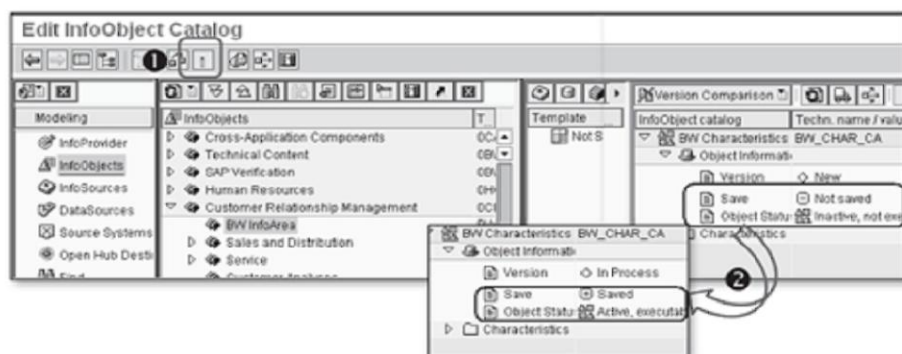

Figure 3.9 Activate InfoObject Catalog
7. Having defined the name for the InfoObject catalog, click the Create icon (❸), or press [F5] on the keyboard. The system creates the new InfoObject catalog, which is still inactive (Figure 3.9).
8. Activate the InfoObject catalog using the Activate icon (1 of Figure 3.9).
After you activate the InfoObject catalog, you'll see a message confirming activation at the bottom of the screen. You can also view your newly created InfoObject catalog BW_CHAR_CA under InfoArea BW_AREA. As you can see in 2 of Figure 3.9, the InfoObject catalog is listed as Active.